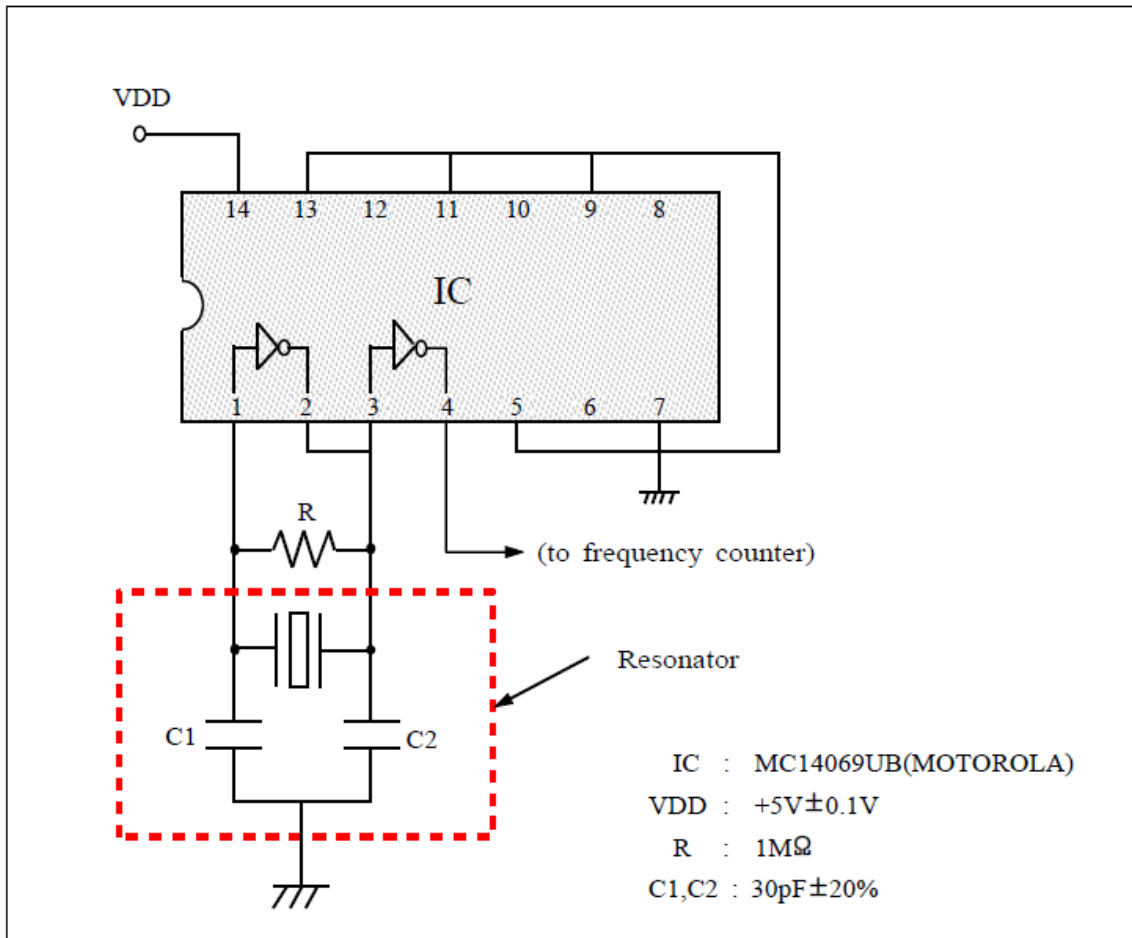
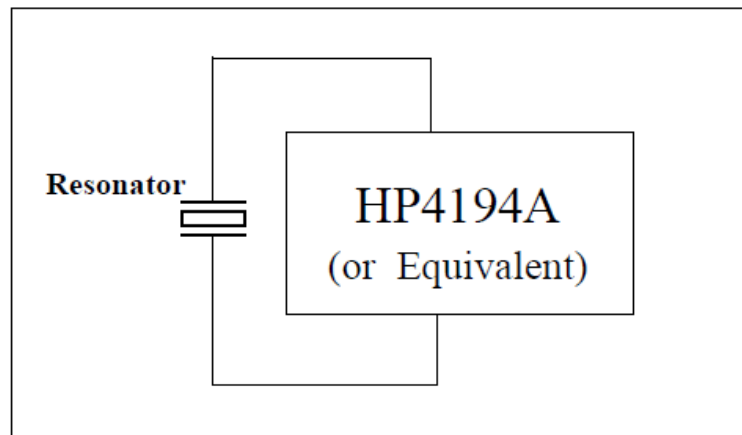

Figure 1. Test Circuit for Oscillating Frequency
Figure 2. Measurement for Resonant Impedance
The MHz ceramic resonator must meet the following performance when tested in the circuit indicated in figure 1 and figure 2.
4. Irregular or stop oscillation may occur under unmatched circuit conditions. And it shall be noted that oscillating frequencies of the Ceramics Resonator may drift depending on IC applied (the type names, the manufacturer) and capacitance of external capacitors(C1,C2) and the circuit design in figure 1.